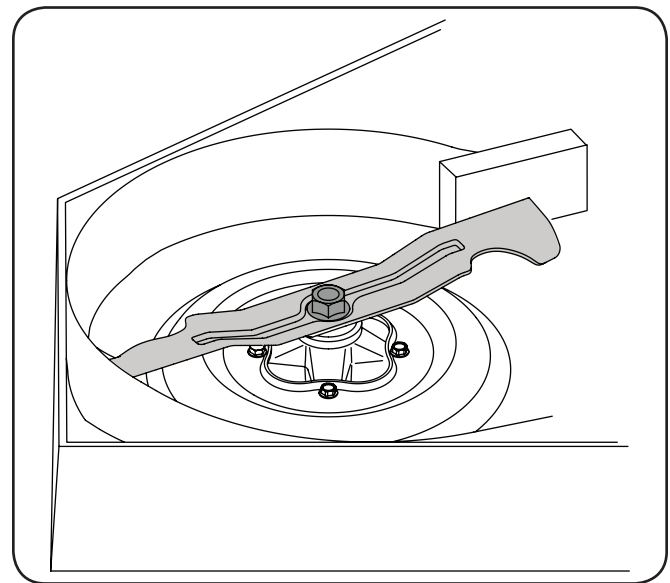

**Figure 7-6**
3. Wrap a rag around one end of the blade and grasp it to prevent it from turning, or secure the blade by placing a block of wood between the blade and the deck housing. See Fig. 7-6.